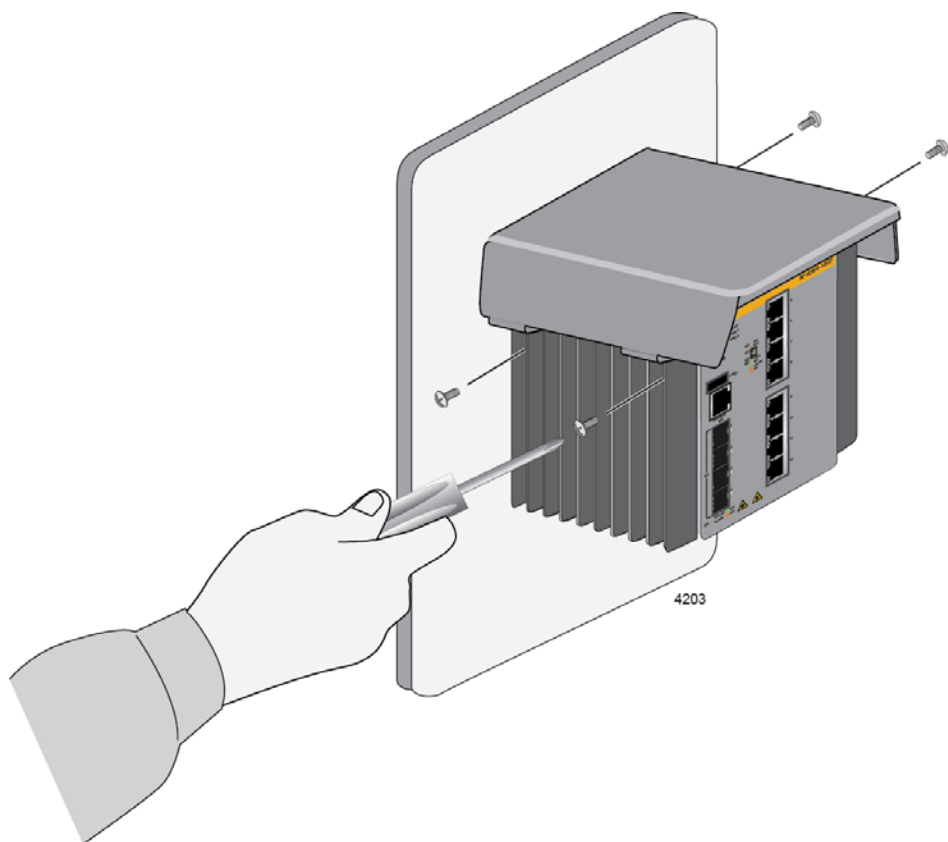

Figure 51. Securing the Drip Guard
2. Install the four Phillips-head screws included with the drip guard to secure it to the switch. Refer to Figure 51.